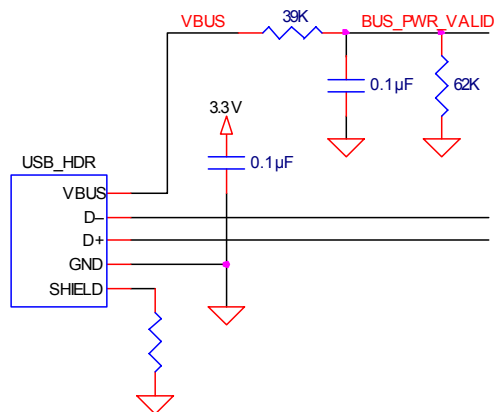

Figure 4. Schematic Showing the VBUS Filter, USB SHIELD-to-GND Resistor, and Decoupling Capacitor
2. Filter VBUS to make it less susceptible to ESD events. This is especially important if the Cypress High-speed USB chip uses VBUS to determine whether it is connected or disconnected from the bus. A simple RC filter works well. See *Figure 4* for details. The filter should be placed closer to the USB connector than the USB chip.